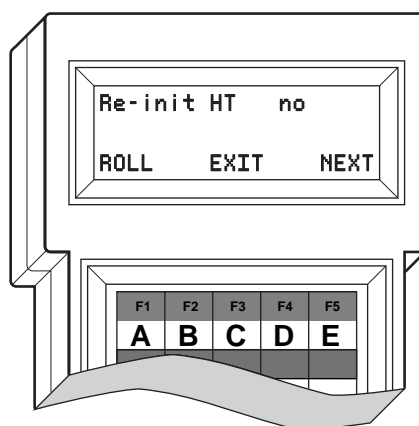

Figure 11. HHT set-up display
1. Plug the HHT into the DIAGNOSTICS connector. Enable the setup mode by pressing the **SHIFT**, **CTRL** and **SPACE** keys in sequence. The display shown in Figure 11 appears.